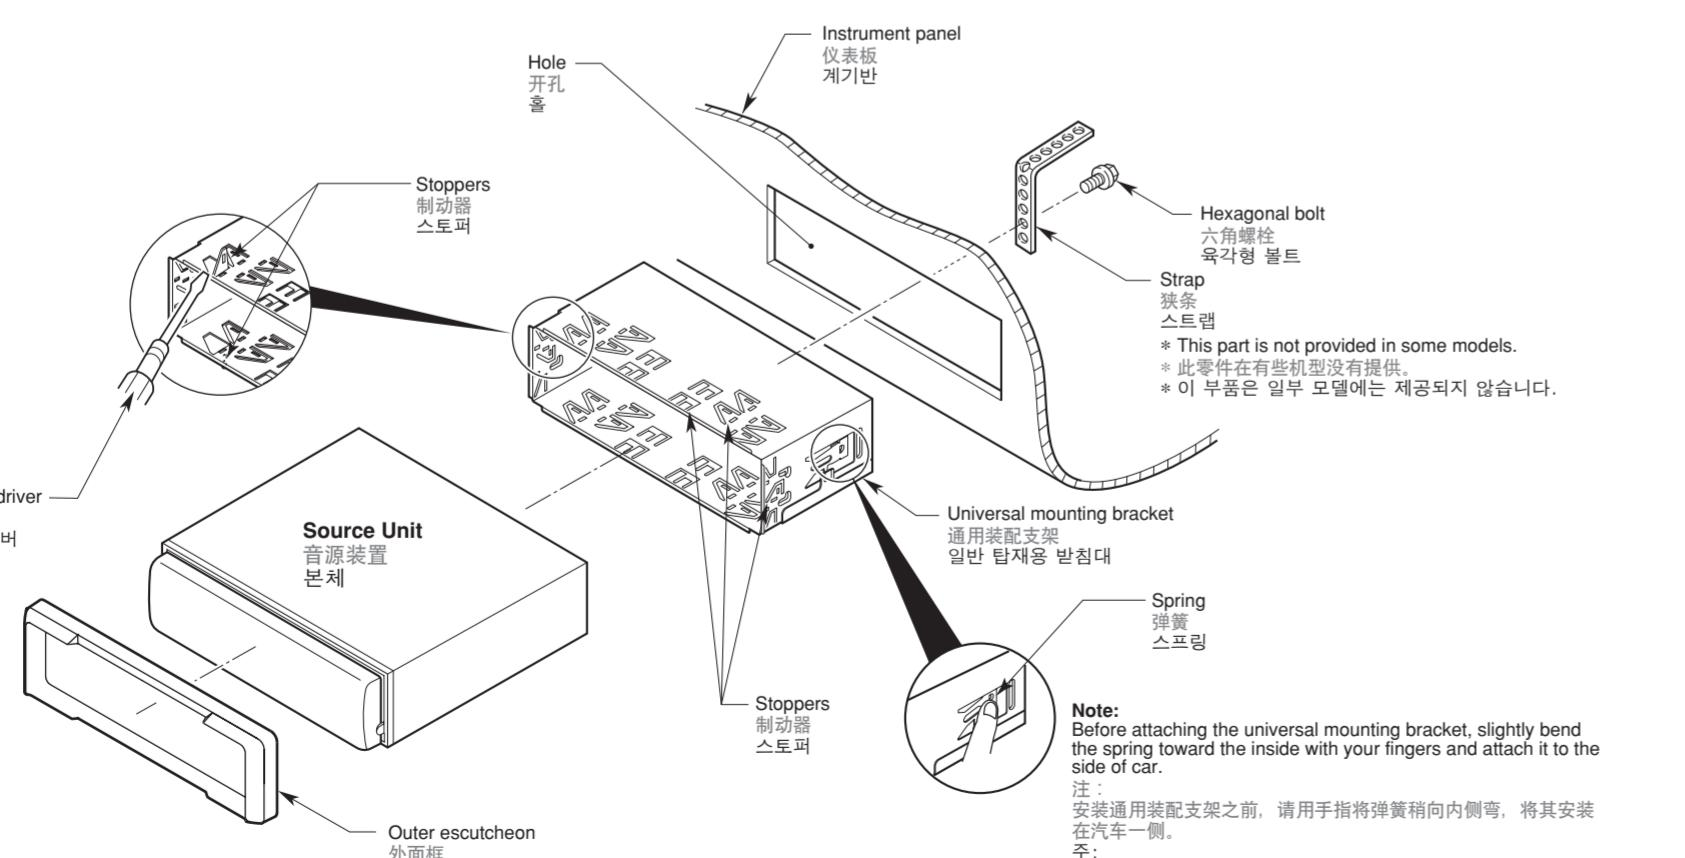

Figure 5 / 圖 5 / 그림 5
- Place the universal mounting bracket into the instrument panel, use a screwdriver to bend each stopper of the universal mounting bracket inward, then secure the stopper as shown in Figure 5.